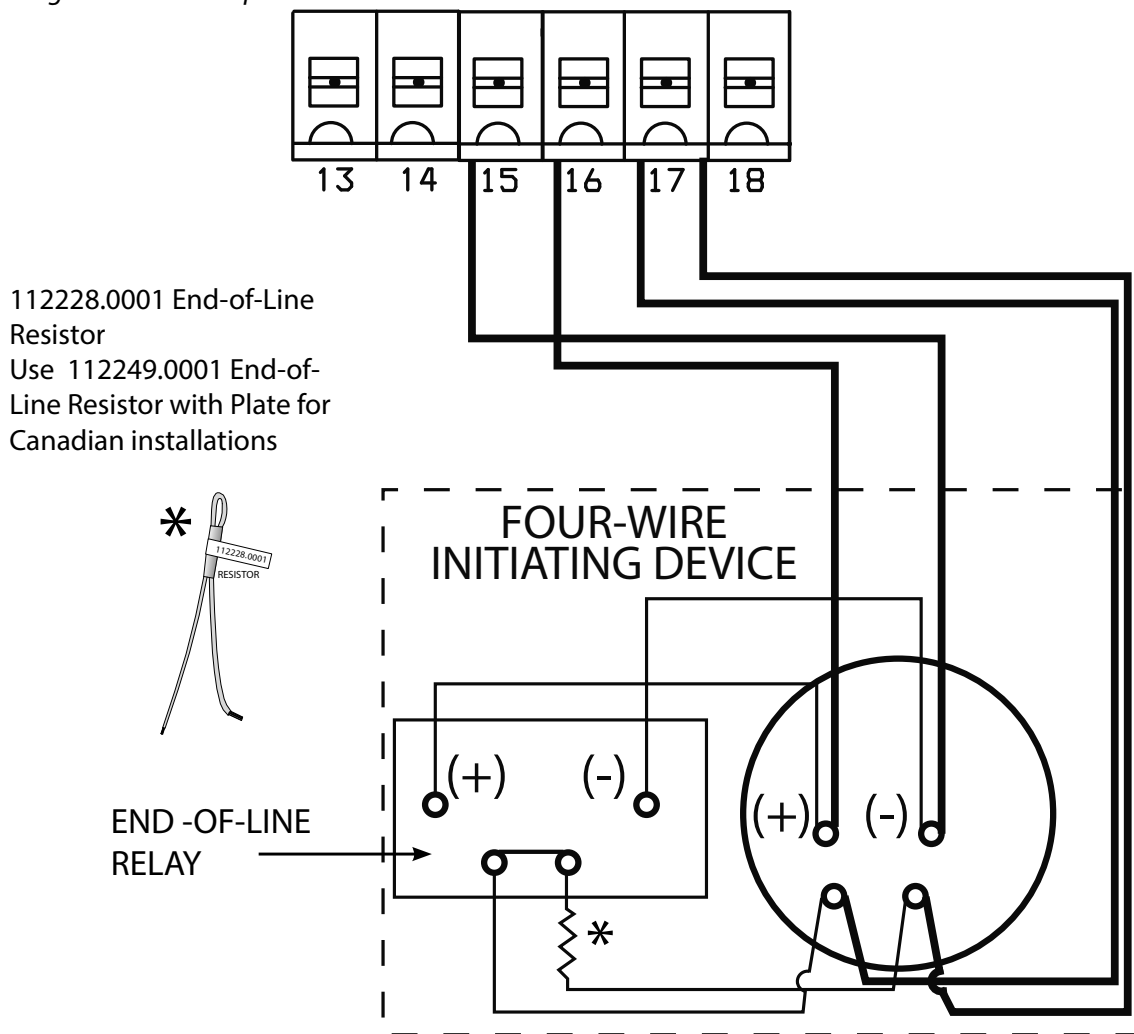

Fig. 9
1. Connect wiring from N/O smoke loop to Fire Door Module terminal block positions 17 & 18, making sure end of line resistor (112228.0001) is installed as indicated. Fig. 9